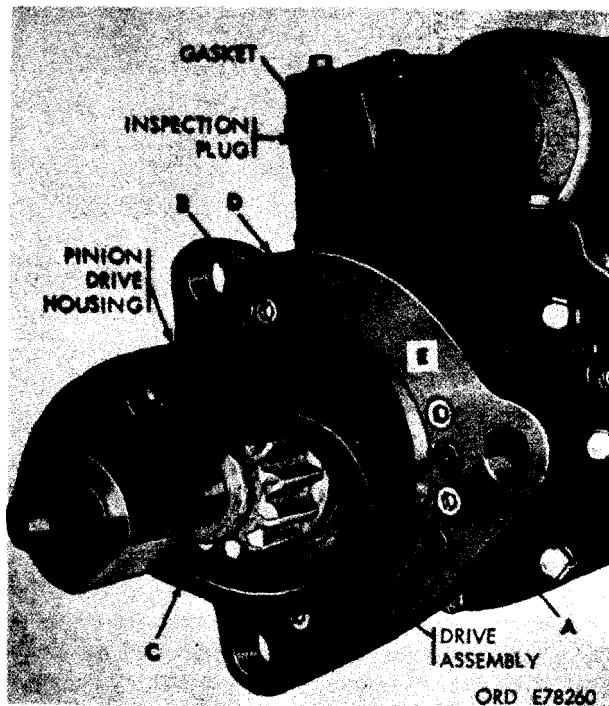

Figure 4-1. Removing or installing pinion housing assembly.
a. Remove *Pinion Housing Assembly*. Refer to figure 4-1 and remove pinion housing assembly as follows. (A) Scribe a mark on pinion housing and intermediate housing to locate relative positions at assembly. (B) Remove six $1/4 \times 7/8$ socket head cap screws. (C) Remove pinion housing from intermediate housing. (D) Remove and discard 3.51 inch od preformed packing from groove in pinion housing. (E) Remove thrust washer (or washers, early model starters) from armature shaft.
(1) Remove inspection plug (fig. 4-1) and gasket from yoke cover.